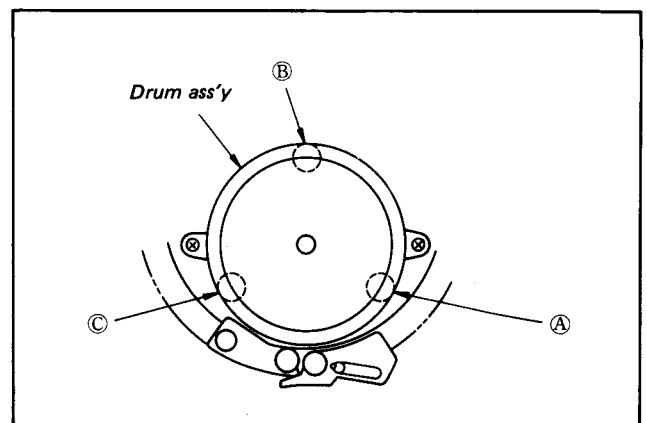

Fig. 3-50
If the tape does not run parallel to the upper flange, insert a drum spacer as shown in (C) of Fig. 3-50.